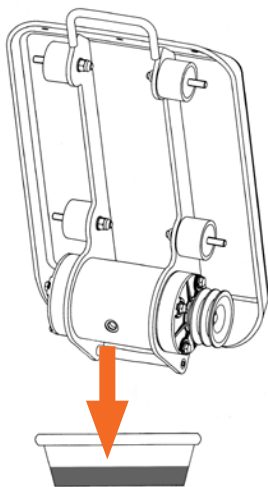

Figure 13
5. Remove the drain plug from the top of the exciter housing. Tilt upside down so fluid drains (see Figure 13).